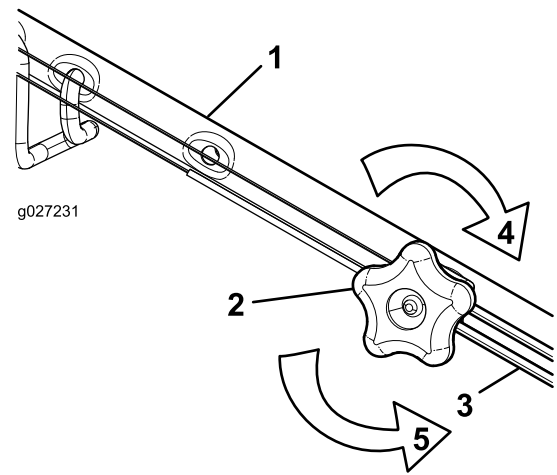

Figure 46
2. Adjust the tension on the cable (Figure 46) by pulling it back or pushing it forward and holding that position.
1. Turn the adjustment knob counterclockwise to loosen the cable adjustment (Figure 46).